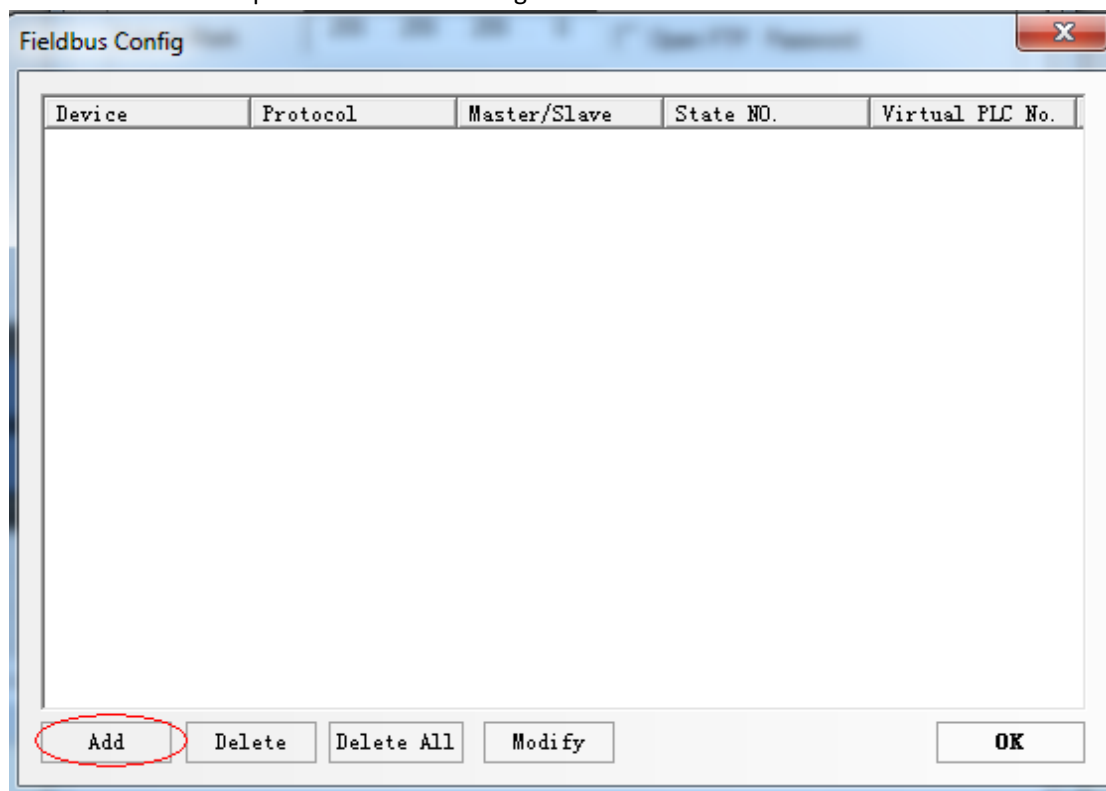

Fig.4
2. Click "Field Bus Setting" to open Field bus configuration window. Then click "Add" to choose the protocol as shown in Fig.4.